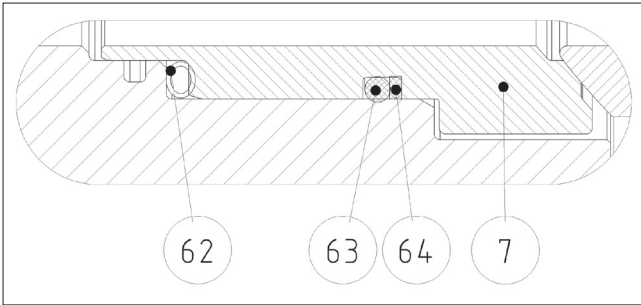

Fig. 12
- Place the back seal (O-ring) (63) into the groove in the seat. See Figure 12.
- Place the back-up rings (64) made of PTFE strips at the side of the O-ring. To ensure that the seam becomes flexible, the strip must have slanted ends.
- Place the spring (62) on the seat (7). Connect the ends of the spring.